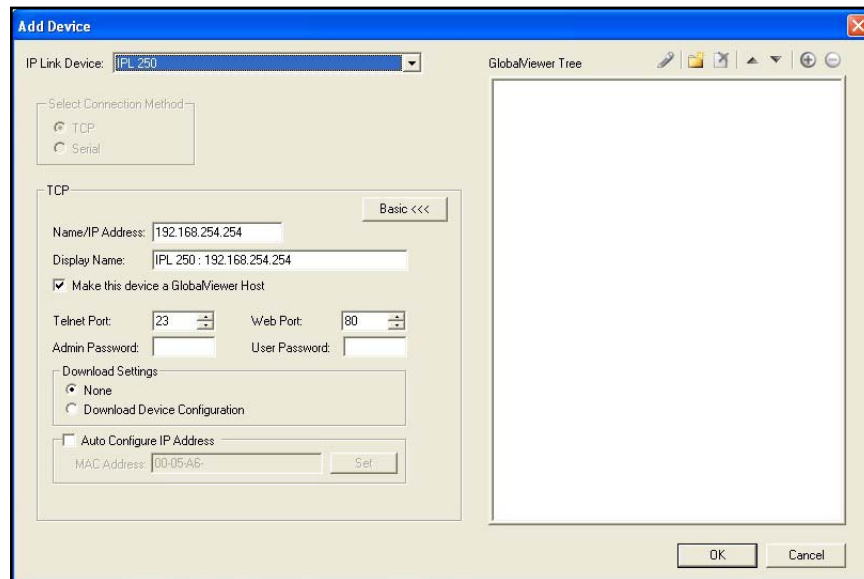

Figure 26. Global Configurator Add Device Dialog Box
- a. Select the IP Link device from the drop-down menu. In figure 26, above, an IPL 250 controller is added. Adding a different IP Link product is similar.